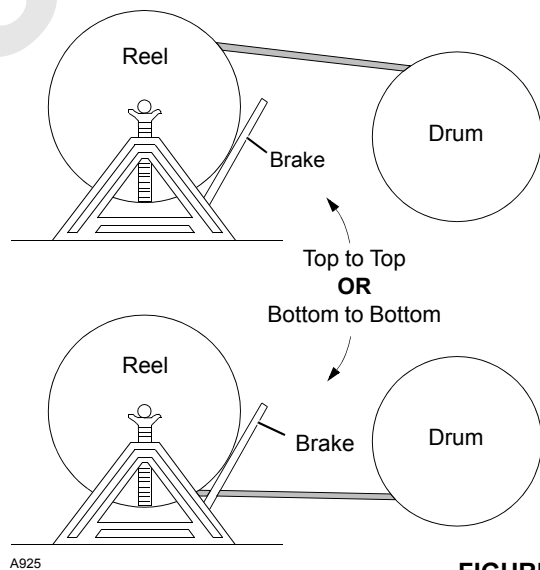

FIGURE 4-37
- b. Provide a brake at the shipping reel (see Figure 4-37) so the wire rope can be wound tightly onto the drum.
- c. To avoid a reverse bend when winding the wire rope onto the drum, wind from the top of the reel to the top of the drum or from the bottom of the reel to the bottom of the drum as shown in Figure 4-37.